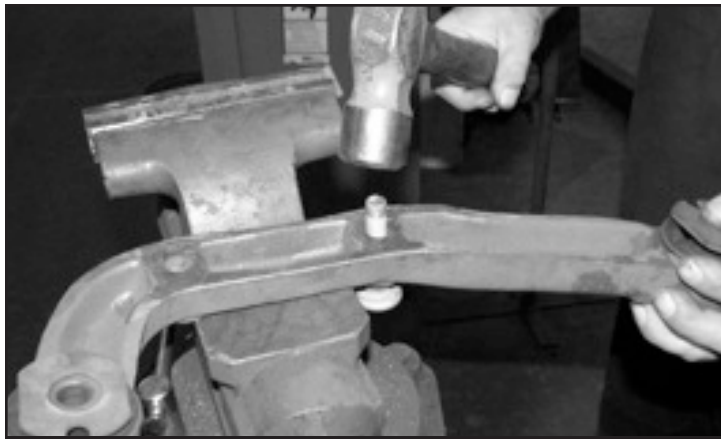

FIGURE 12 - STEP 14
14. Remove the factory studs from the differential mount and reinstall the differential mount. **SEE FIGURE 12**